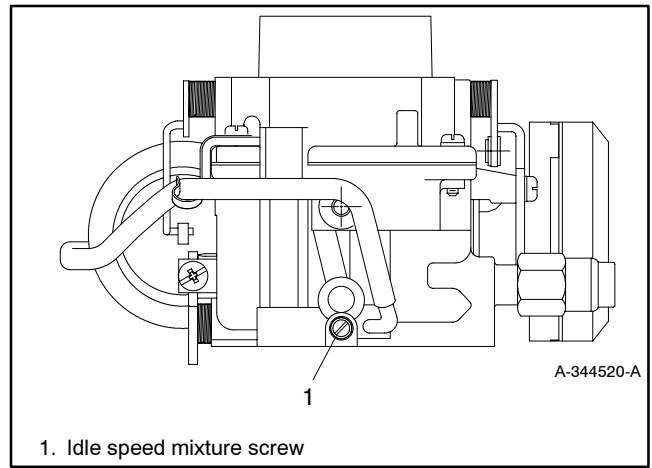
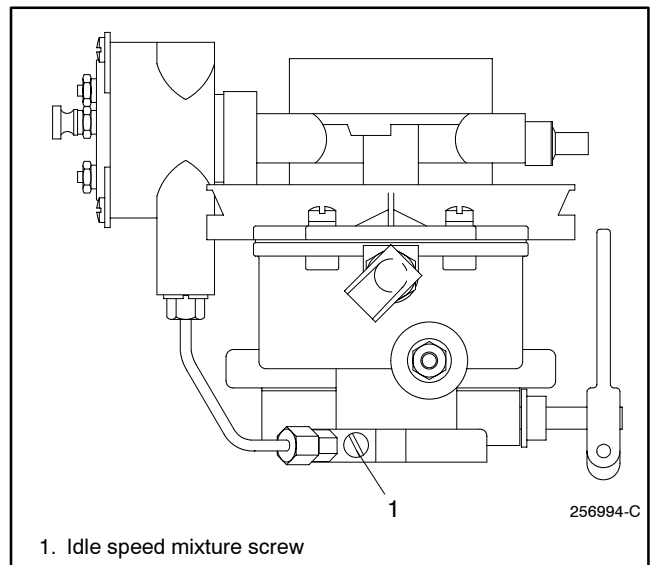

Figure 2-3 Idle Speed Mixture Adjustment, 10/12 kW
Figure 2-4 Idle Speed Mixture Adjustment, 18 kW
1. With ENGINE STOPPED, turn idle speed mixture screw in (clockwise) until it seats lightly. DO NOT FORCE! Turn idle speed mixture screw out 1 3/4 turns. See Figure 2-3 and Figure 2-4.